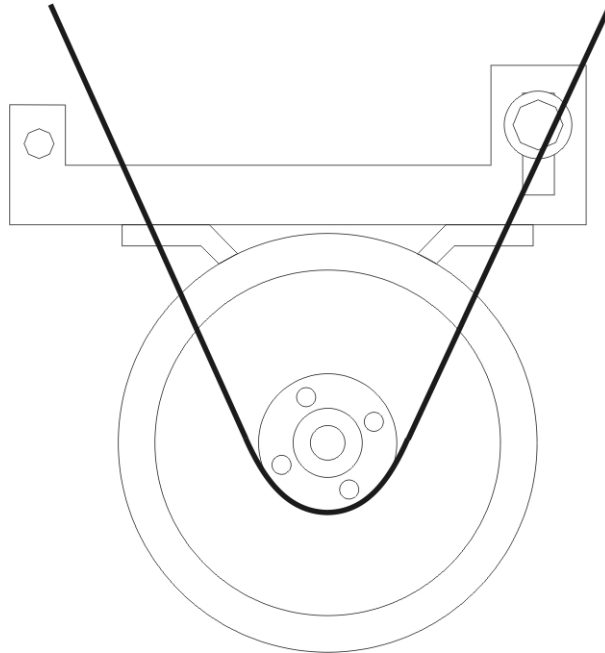

Figure 6.2: Belt Tensioning Bolt
- (c) HE-85, HE-110: After disconnecting power to the machine and removing all panels necessary for access to the drive belts, use the following method to verify that the V-belts are properly tensioned. Belt tensioning is straightforward, and accomplished by loosening the tension adjusting bolts and adjusting the belts to the proper tension. Then the bolts should be tightened. See figure 6.2.